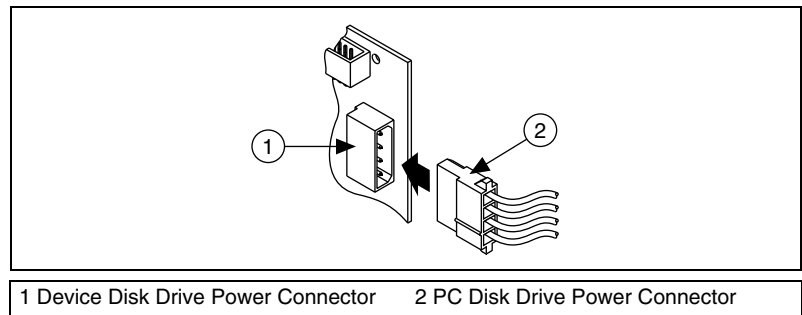

Figure 3-1. Connecting to the Disk Drive Power Connector
3. Attach the PC disk drive power connector to the disk drive power connector on the device, as shown in Figure 3-1.